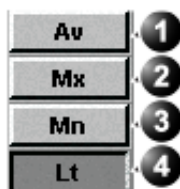

Figure 7-2: The Calculation method options list.
1. Select the relevant cell in the *Method column* (see Figure 7-2).
A pop-up menu is displayed showing the different options available (Figure 7-2).
A pop-up menu is displayed showing the different calculation options available (Figure 7-2).